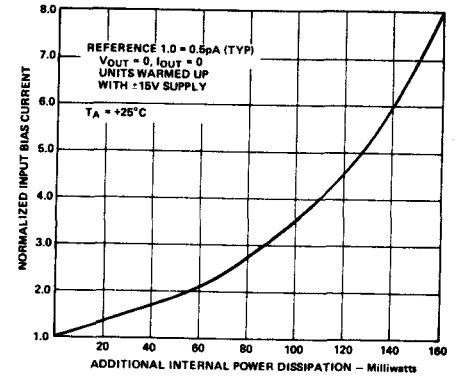

Figure 9. Input Bias Current Versus Additional Power Dissipation
3. Output loading effects, which are normally ignored, can cause a significant increase in chip temperature and therefore bias current. For example, a  $2\text{k}\Omega$  load driven at 10 volts at the output will cause at least an additional 25 milliwatts dissipation in the output stage (and some in other stages) over the typical 24 milliwatts, thereby at least doubling the effects of self-heating. The results of this form of additional power dissipation are demonstrated in Figure 9, which shows normalized input bias current versus additional power dissipated; we recommend restricting the load impedance to be at least  $10\text{k}\Omega$ .